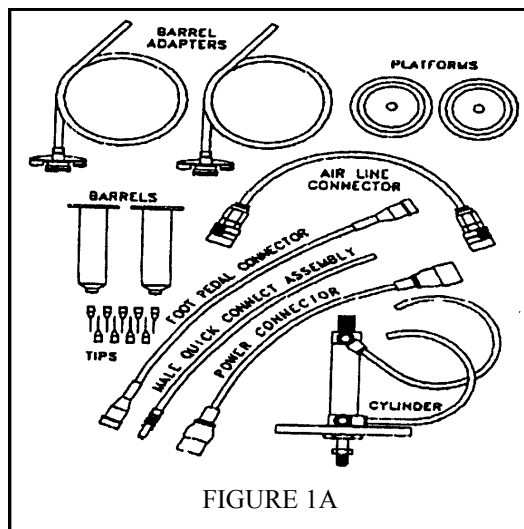

FIGURE 1A
- 2.1 Carefully unpack the rotary table and parts and check the contents fig 1A & 1B.